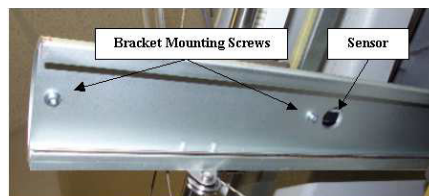

Figure 2 - X-Home Sensor and Mounting Screws
5. Remove the screws mounting the x-home sensor mounting bracket to the beam. The screws are located on the bottom side of the beam as shown in Figure 2 above.